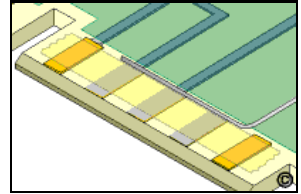

Figure 4: Apply Kapton Tape then solder a wire to the edge of the contacts needing plating.
2. Solder a 30 Gauge Wire directly to the inboard tip or connecting circuit of each contact to be plated. The smallest amount of solder should be used to prevent further contamination. (See Figure 4)